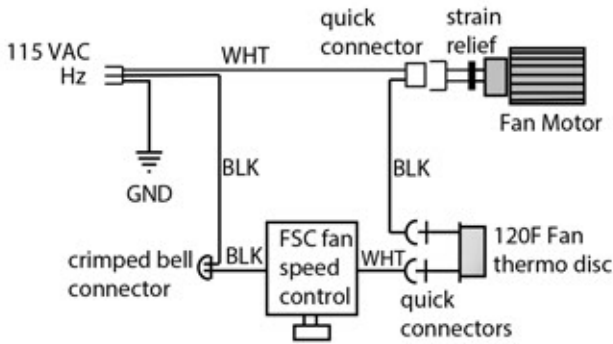

Figure 34. Circulating blower and fan speed controller wiring.
- 3). Connect the male motor connector to the fan wiring harness. Figure 34.